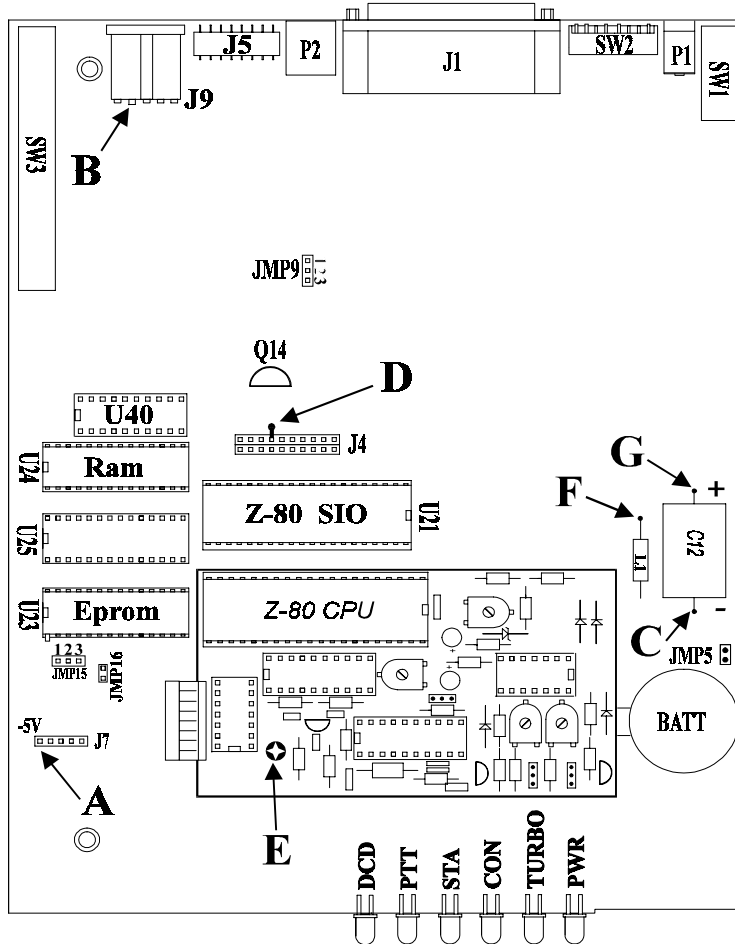

Figure 1b-- MFJ-1270C/1276; Rev. 11
1. Referring to Figure 1b, locate **U40** on the TNC PC board and carefully remove it from its socket. This IC is not needed when running the X-1J firmware. Be sure to set it aside in a safe place, because if you convert the MFJ TNC back to normal, then you will need it.
5. Remove the bbRAM memory backup jumper **JMP 5** on the TNC. Please see Figure 1b for the location of JMP5.
10. Take the shorting jumper from JMP15 and place it on JMP21. Please see the NOTE on Figure 1b for the location of JMP21. There will be NO jumper needed on JMP15 when using the X-1J eeprom.
11. Find the white IDC connector with the (5) wires attached to it. Snip the bare ends of the wires to a length of 1/16".